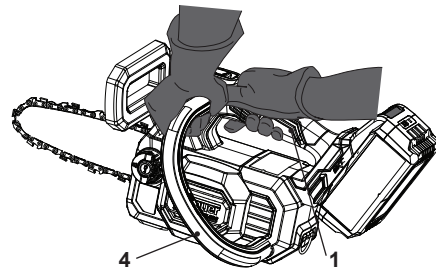

Fig. 18
1. Make sure the chain brake is disengaged. Disengage the chain brake by pulling the front safeguard (chain brake lever) (5) back towards the front handle (4).
2. Place the product on any suitable flat surface, make sure the saw chain (12) is not touching the surface or other objects.
3. Attach the battery pack (23).
4. Hold the product with left hand on the front handle (4) and right hand on the rear handle (1) (Fig. 18).
5. Pull back the lock-off button (3), then squeeze the on/off switch (2) to switch the product on and wait until it runs at full speed.